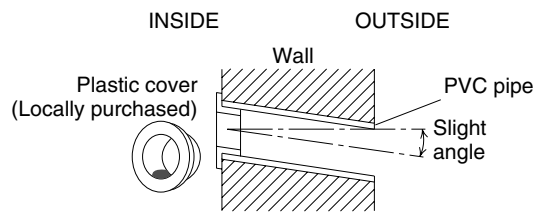

**Fig. 3-79**
- (4) Using a sabre saw, key hole saw or hole-cutting drill attachment, cut a hole in the wall. (Fig. 3-79)